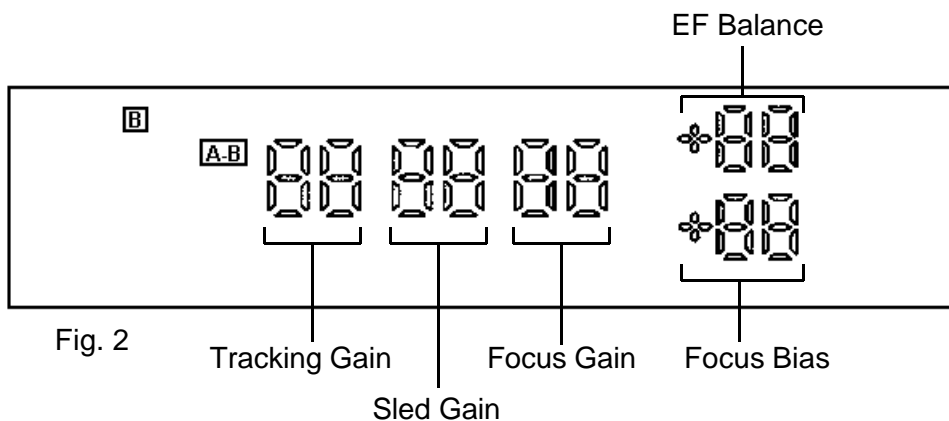

Fig. 2
6. Hold ◀◀ (SKIP)+ ▶▶ (SKIP) + OPEN. (Fig. 2)